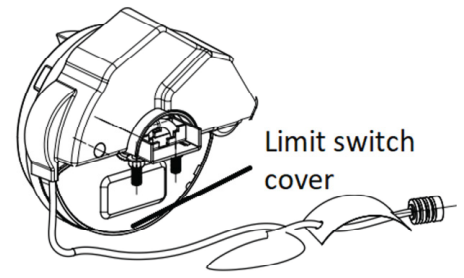

Figure 4
- Remove the limit switch cover from the motor head. (See Fig 4)